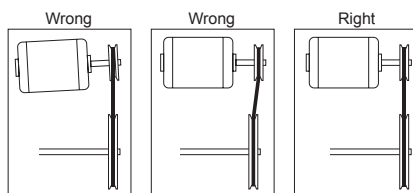

Figure 5
2. Mount sheaves on shafts and secure with set screw. Check sheaves for proper alignment, see Figure 5. Misaligned sheaves lead to excessive belt wear, vibration and noise.